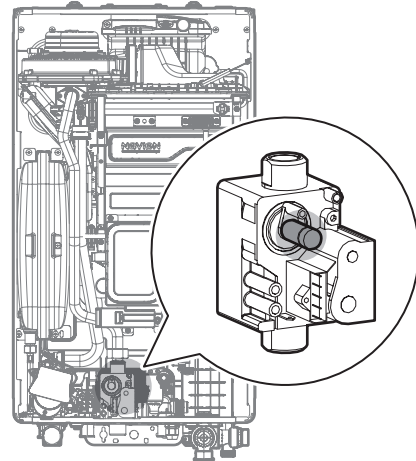

Figure 8. Set Screw Location
- c. Fully open several hot water fixtures and set the boiler to operate. Measure the CO₂ value at low fire. If the CO₂ value is not within 0.3% of the value listed in Table 2, the gas valve set screw will need to be adjusted. If adjustment is necessary, locate the set screw as shown in Figure 8. Using a T15 Hexalobular wrench, turn the set screw no more than 1/4 turn clockwise to raise or counterclockwise to lower the CO₂ value.